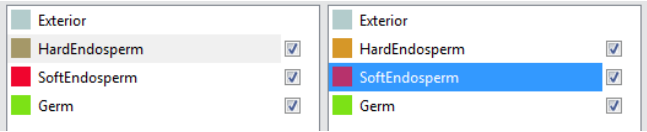

Figure 22.26: Contact Mode
- *Contact*: The contact mode allows selecting interfaces between two materials. Select the two materials from the materials list (Figure 22.26).